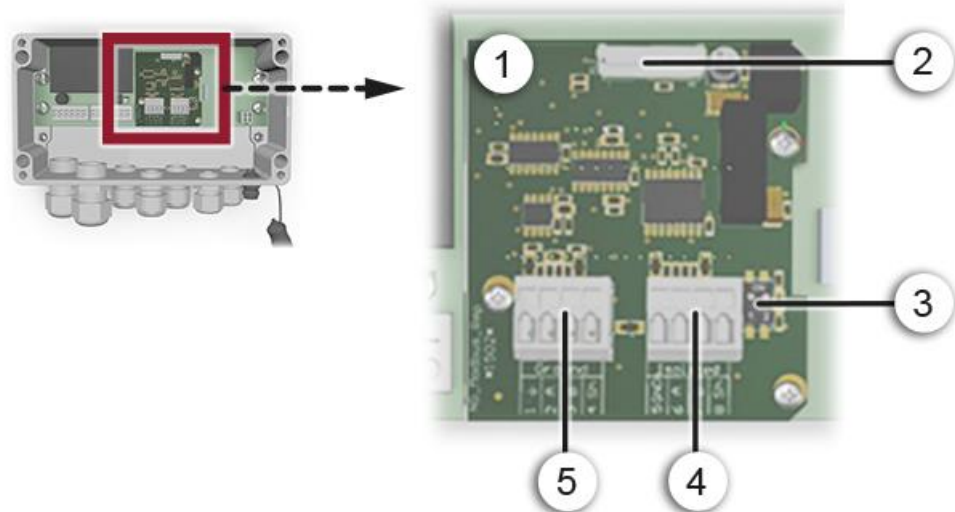

Figure 14: Overview of the Modbus RTU module in the SIPOINT 2
①	Fieldbus interface (connection print) for Profinet IO	②	Connector for SIPOINT 2 print
③	Ethernet port 1	④	Ethernet port 2
- If the photometer is used as a terminal device, DIL switch S2/1 must be switched ON on the connection module (Figure 14, pos. 3).